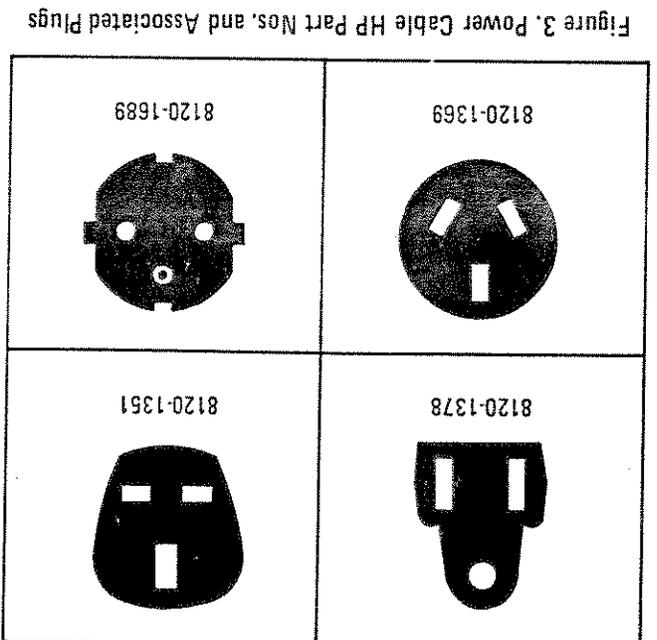

Figure 3. Power Cable HP Part Nos. and Associated Plugs
(For HP Part Number refer to Figure 3)
30. In accordance with international safety standards, this instrument is equipped with a three-wire power cable. When connected to an appropriate power receptacle, this cable grounds the instrument cabinet. The type of power cable plug shipped with each instrument depends on the country of destination. See Figure 3 for the part numbers of the power cable plugs available.